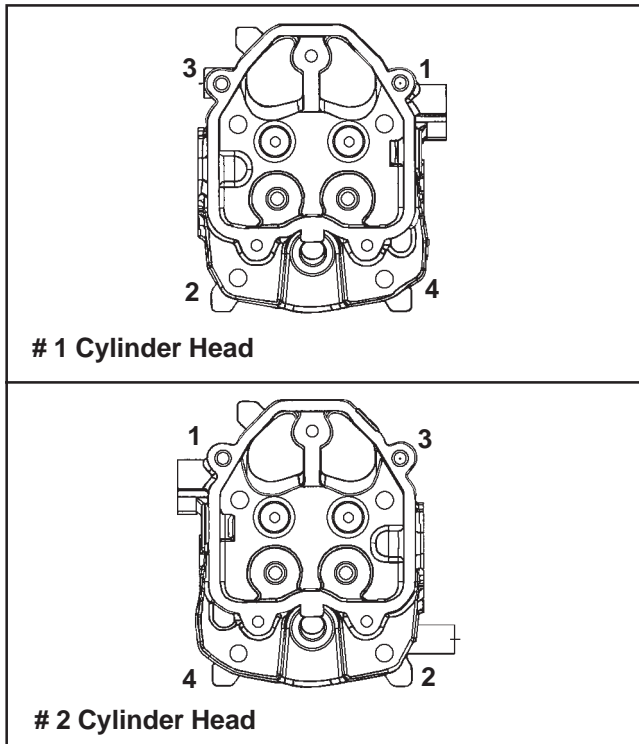
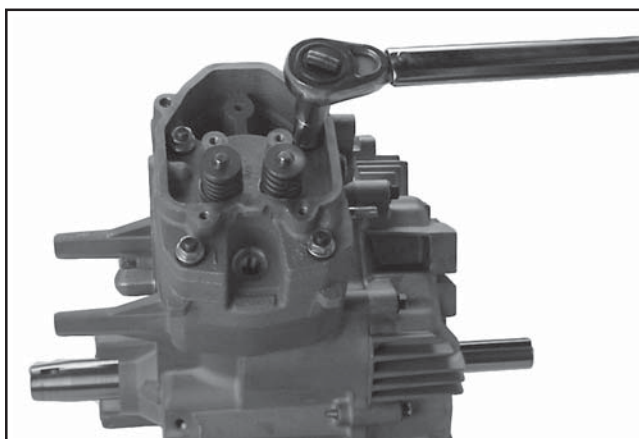

Figure 11-24. Cylinder Head Torque Sequence.
Figure 11-25. Torquing Cylinder Heads.
5. Initially torque the four hex. flange nuts in the proper sequence to **16.9 N·m (150 in. lb.)**. See Figure 11-24 for the correct torque sequence. Repeat the procedure, and torque the flange nuts to a final value of **33.9 N·m (300 in. lb.)**. See Figure 11-25.